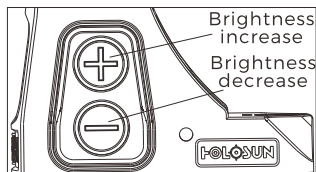

Fig 7
1. Switch on: Press and release either brightness button ("+" or "-") to turn on the sight. See Fig 7.